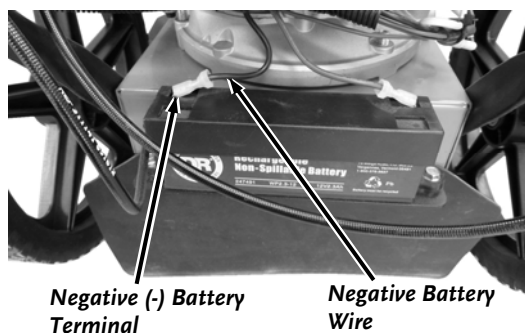

Figure 12
1. Connect the black wire by pushing the Connector onto the negative (-) Battery terminal (Figure 12).